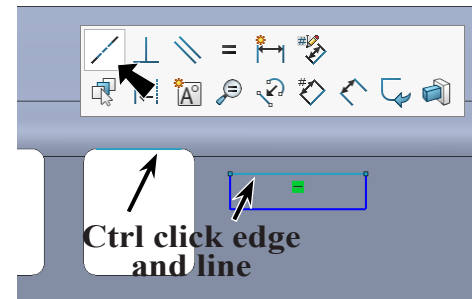

Fig. 69
Step 6. **Ctrl click top edge of window and top line of rectangle** to select both. Release Ctrl key and click **Make Collinear**  on the context toolbar, **Fig. 69**.